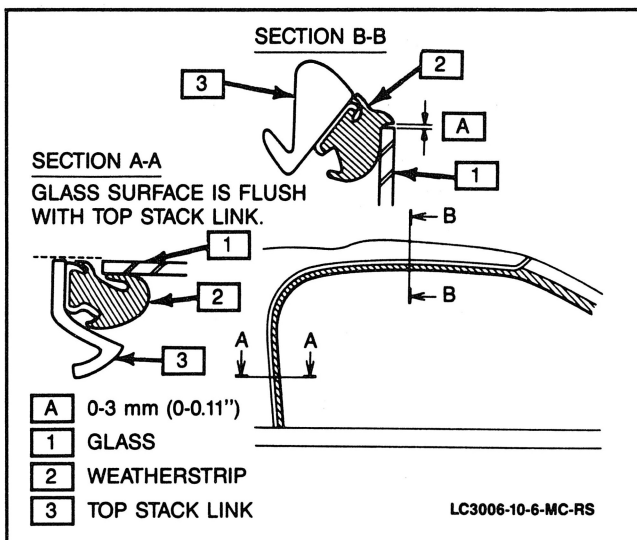

Figure 19 Adjusting Glass Position
- Glass for correct front/rear and left/right position (Figures 19 and 20). Adjust as required.